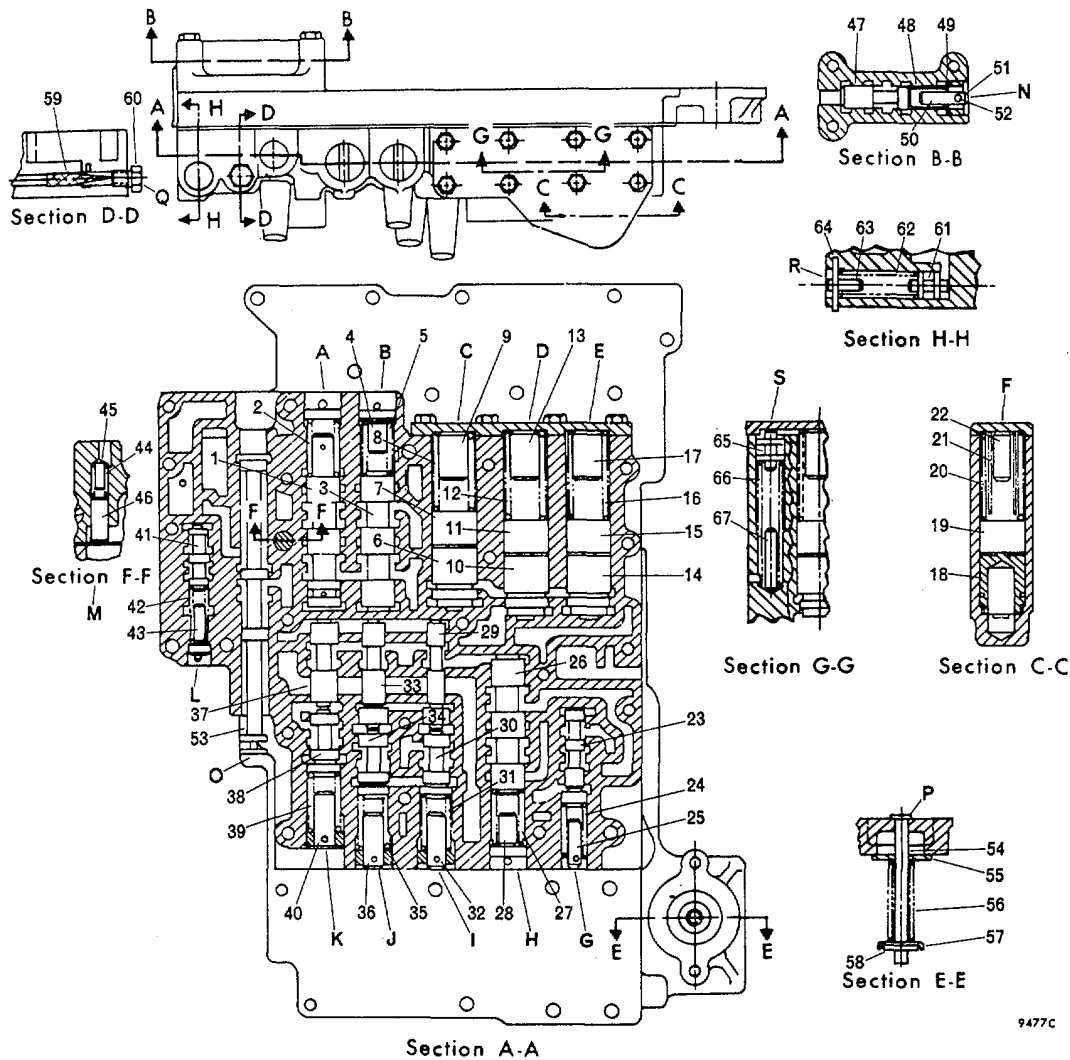

Fig. 6-7. Control valve assembly - with components installed.
(7) Disassemble the modulator valve body, removed in (3), above. Press adjusting ring 22 inward and remove retainer pin 16. Release the adjusting ring and remove it. Remove valve stop 21, washer 20, spring 19, and valve 18.
(8) Remove priority valve 46 (fig. 6-7) spring 44, and valve stop 45 from the control valve assembly.
(9) Position valve body 24 (B, foldout 16), flat side downward, on the work table. Remove plug 58 and screen assembly 59.
LEGEND FOR FIGURE 6-7.